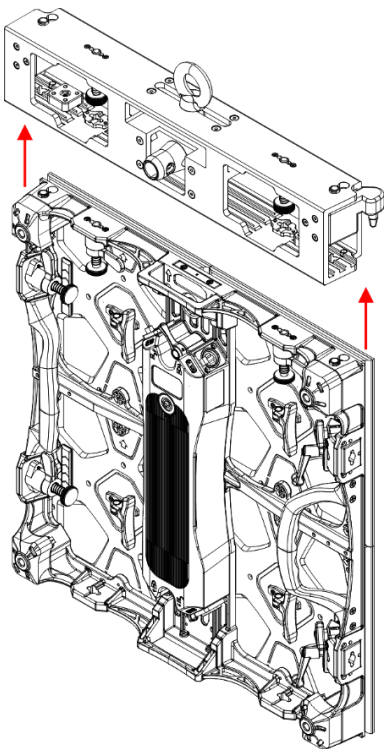
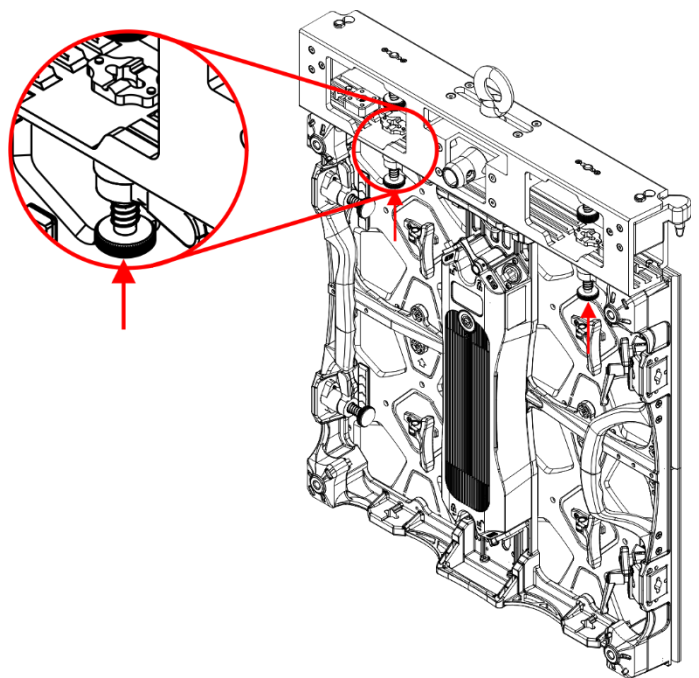

Fig. 19
Fig. 20
- 01) Put the LED screen below the rigging bar and let the magnetic strip on top of the LED screen snap to the bottom of the rigging bar, as shown in Fig. 19.
- 02) Turn **lever (A)** of the left **locking mechanism (06)** counterclockwise.
- 03) Push the **spring-loaded fast-lock (B)** of the left **locking mechanism (06)** upwards and turn it by 90° clockwise or counterclockwise, as shown in Fig. 20 and 21.